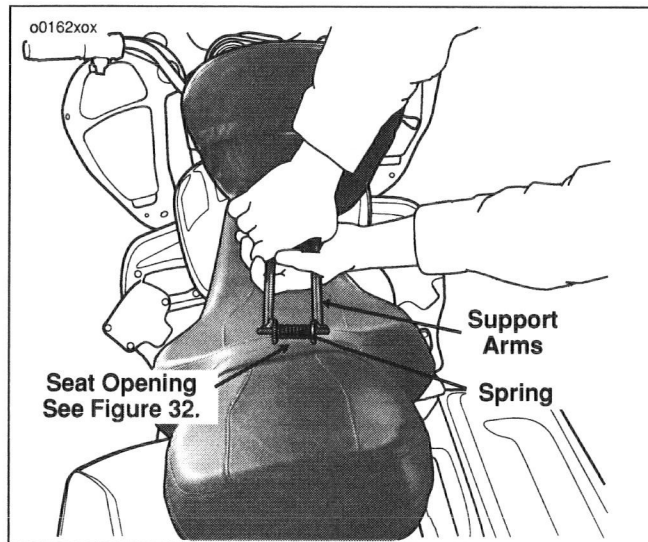

Figure 31. Backrest Installation
1. See Figure 31. Spread the seat opening expose the keyed backrest support bracket.
2. See Figure 31. Squeeze together the two spring loaded support arms on the backrest.